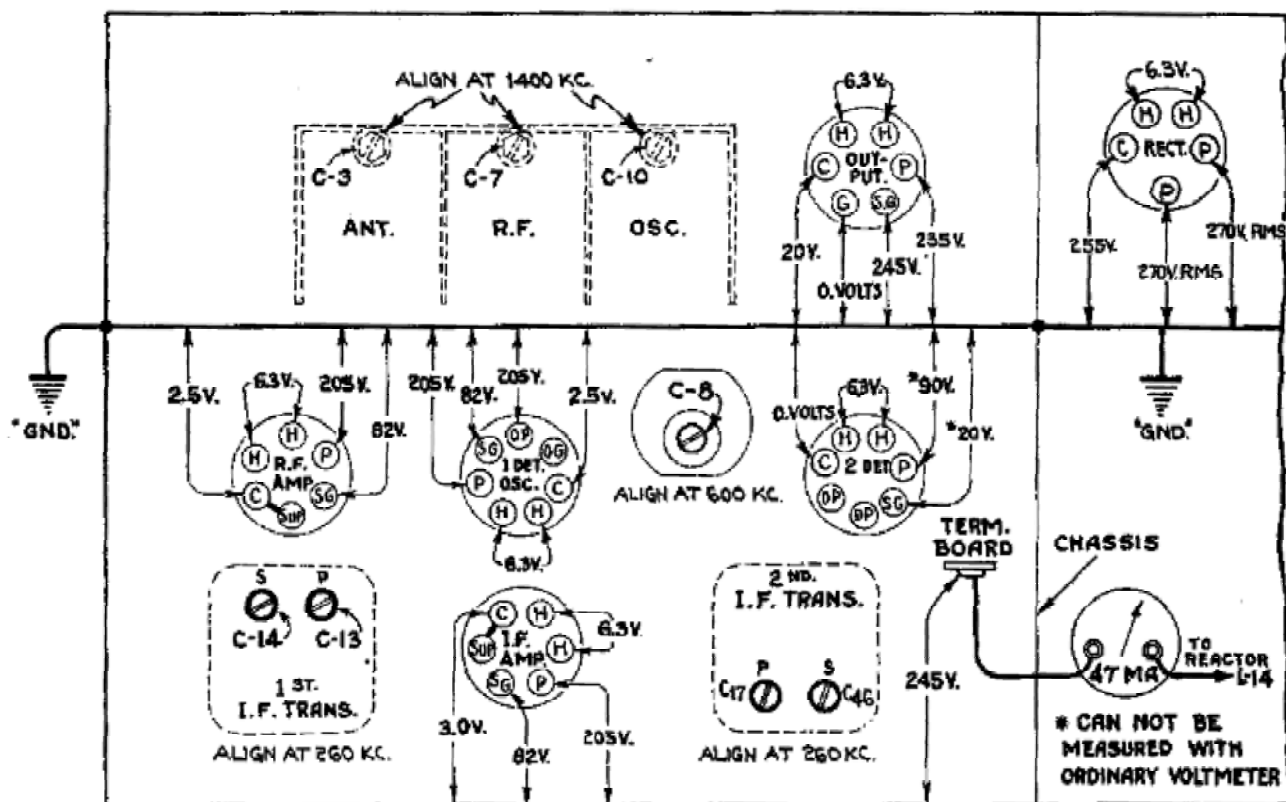

Figure 6—Radiotron Socket Voltages to Chassis
- (c) **INTERRUPTER**—Improper operation of the power supply interrupter is usually evidenced by reception of "sputtering noise." To check, remove the antenna connection and advance the receiver volume control (engine off). An increase in noise will usually indicate that the interrupter is in poor condition. Further investigation should be made by substitution of the interrupter with one known to be in good condition. No adjustments should be attempted on this unit. The operation of the interrupter and the associated rectifier system may also be proved normal by measurement of the filter output voltage, which should read steady at approximately 245 volts (d.c.). The points of test are indicated by Figure 6.
rectifier tube, power transformer, interrupter and filter reactor to locate the defective part. If proper voltage is indicated at the filter output, then a thorough voltage analysis of the receiver circuit is in order. Figure 6 gives the values which should be obtained on a receiver in normal operating condition. Deviations from the specified values may be as much as  $\pm 20\%$  before the operation of the receiver is appreciably affected. The absence or erratic reading of one or more of the voltages will indicate a fault in the particular circuit under test; in which case, each transformer, resistor, capacitor, choke and conductor of the circuit should be individually checked for open circuit, short circuit and grounding. Reference to the diagram Figure 2 will give the values of the circuit elements and their schematic relations. Figure 3 illustrates the physical locations of the parts and the color coding of the wiring. Defective parts should be renewed only with genuine factory tested replacements.
The voltages indicated at the socket contacts on Figure 6 will serve to assist in analyzing defective circuit conditions. Each value as specified should hold within  $\pm 20\%$  when the receiver is normally operative at rated supply voltage. They are actual operating values and do not take into account measurement inaccuracies which may be due to the loading effect of a voltmeter's internal resistance. For the majority of readings a meter having an internal resistance of 1000 ohms per volt will be satisfactory when the range used for each check is chosen as high as possible, consistent with good readability. The amount of circuit resistance shunting the meter during measurement will determine the accuracy to be obtained, the error increasing as the meter resistance becomes comparable to or less than the circuit resistance.